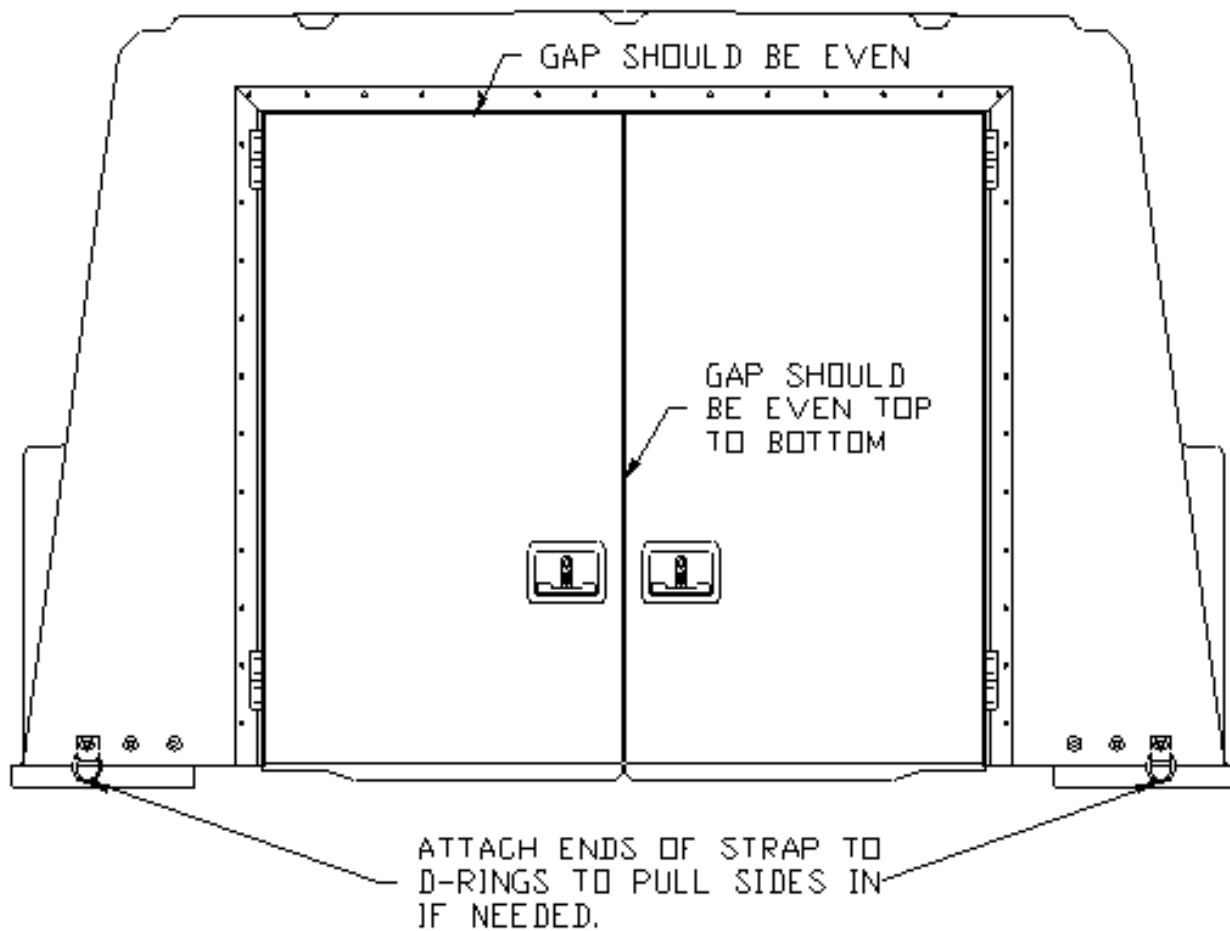

FIG. 1-1
7. Open the vehicle tailgate and reinstall the hard top rear doors. When the hard top rear doors are closed the gap between them should be even top to bottom. The gap between the top of the doors and the frame should also be even. The sides of the top can be move inboard or outboard until even gaps are achieved. The sides of the top can be moved outboard with a pry-bar on the rear L-brackets. The provided strap can be used to move the sides of the hard top inboard by attaching it to the D-rings on the rear of the hard top. Do not over-tighten the strap as this could result in damage to the top. When even gaps are achieved tap the rear L-brackets down until they contact the wheel well. See figure 1-1.